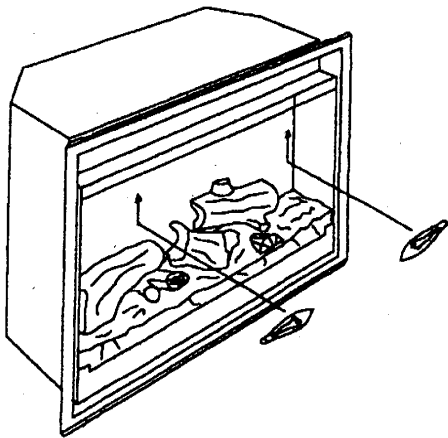

FIGURE 13
1. Examine the bulbs to determine if they need replacing. (FIGURE 13)